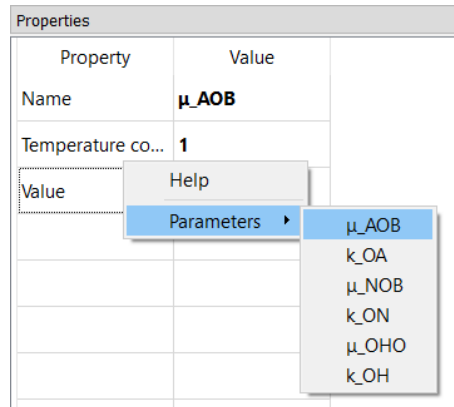

Figure 4: Assigning parameters to model properties
- 8. Assigning the parameters to the corresponding model properties:** The parameters defined in the previous step should not be assigned to their corresponding properties in the model. Choose the reaction parameter μ_{AOB} from **Water quality**→**Reactions**→**Reaction parameters**, and the right click on the label of **Value** property and from the drop-down menu select **Parameters**→ μ_{AOB} figure 4. Repeat for the other parameters to be estimated including k_{OA} , μ_{NOB} , k_{ON} , μ_{OHO} , and k_{OH} .